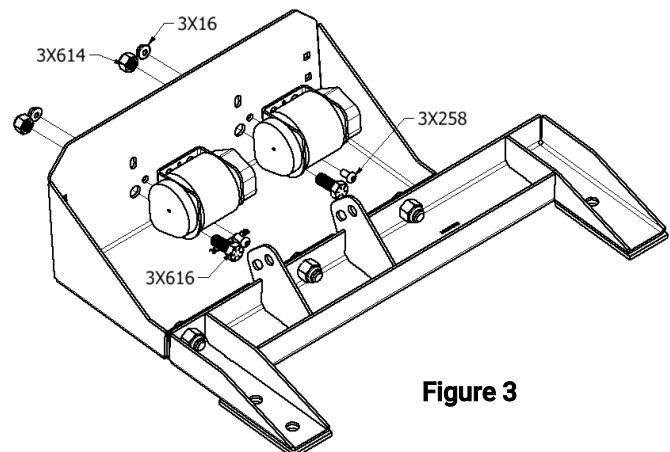

Figure 3
- B. Once center support bracket is securely fastened to the retractor bracket, install retractors to the retractor base with supplied GR.8 bolts [3X616] and GR.8 nuts [3X614]. Use the supplied button head bolt [3x258] and small flange whiz nuts [3X16] to prevent the retractors from pivoting around the main bolts. (Figure 3)
- I. Locate the Passenger Seatbelt Bracket [3OSB572103] and place it over the rear outboard hole which was used by the seat. Orient the bracket such that the rectangular flange is against the floor pan and the triangular flange is toward the inside of the vehicle (Fig. 3).
- J. Place the Lower Buckle [3OSB109RP] against the outside of the bracket and align the long edge of the stake with the rear face of the Seatbelt Bracket. Securely fasten with (1) 7/16" hex bolt [3X616] and (1) 7/16" nylon lock nut [3X614].
- K. If installing an OSB belt on the driver side of the vehicle repeat steps E. and F. for the driver side with the Driver Seatbelt Bracket [3OSB572102], the second Lower Buckle [3OSB109RP], (1) hex bolt [3X616], and